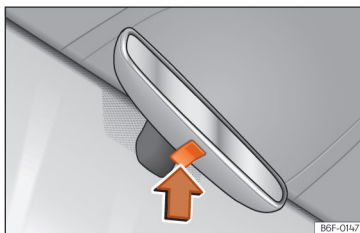

Fig. 75 Manual anti-dazzle function for interior mirror
- To darken the interior mirror, press the mirror button upwards »»» **Fig. 75** (arrow).